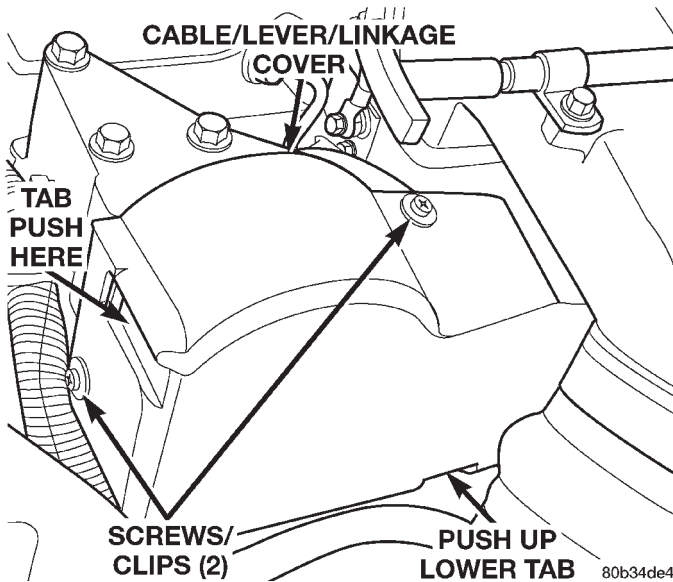

Fig. 41 Cable/Lever/Throttle Linkage Cover
(6) Remove cable cover (Fig. 41). Cable cover is attached with 2 Phillips screws, 2 plastic retention clips and 2 push tabs (Fig. 41). Remove 2 Phillips screws and carefully pry out 2 retention clips. After clip removal, push rearward on front tab, and upward on lower tab for cover removal.